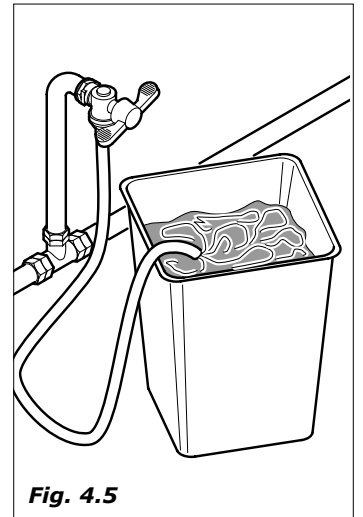

Fig. 4.5
- before making water connections, make some water flow out of the tap so as to eliminate possible traces of impurities and dirt (Fig.4.5)